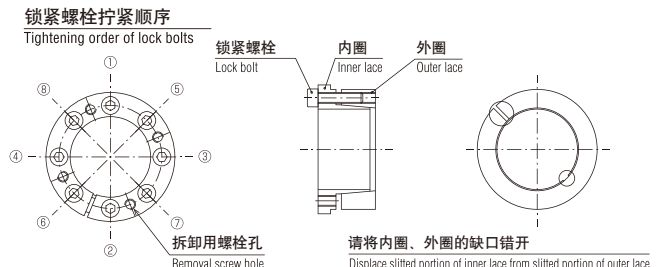

图8 Fig.8
5. 调整后，将锁紧螺栓按照对角线的顺序，按照规定拧紧扭矩的约1/4均等地增加拧紧扭矩来拧紧螺栓。(图8)
After the adjustment, fasten the lock bolts diagonally and uniformly starting at 25% or so of the recommended tightening torque with gradual increase (Fig. 8).